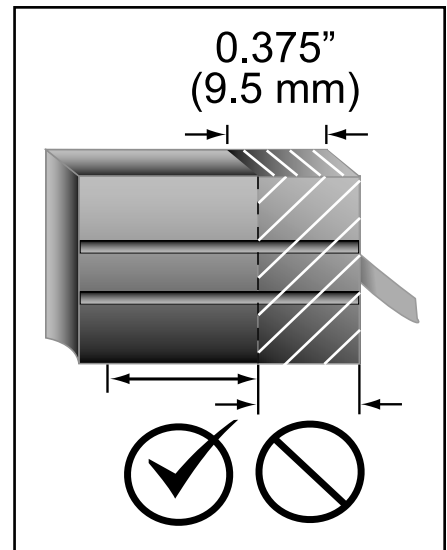

Figure 15
- B. Inspect the brushes for signs of excessive wear or cracks. The motor brushes must be replaced if one or both is worn to .375" (9.5 mm) or less in length, is broken or chipped, has a broken spring, or binds in the motor. See Figure 15.